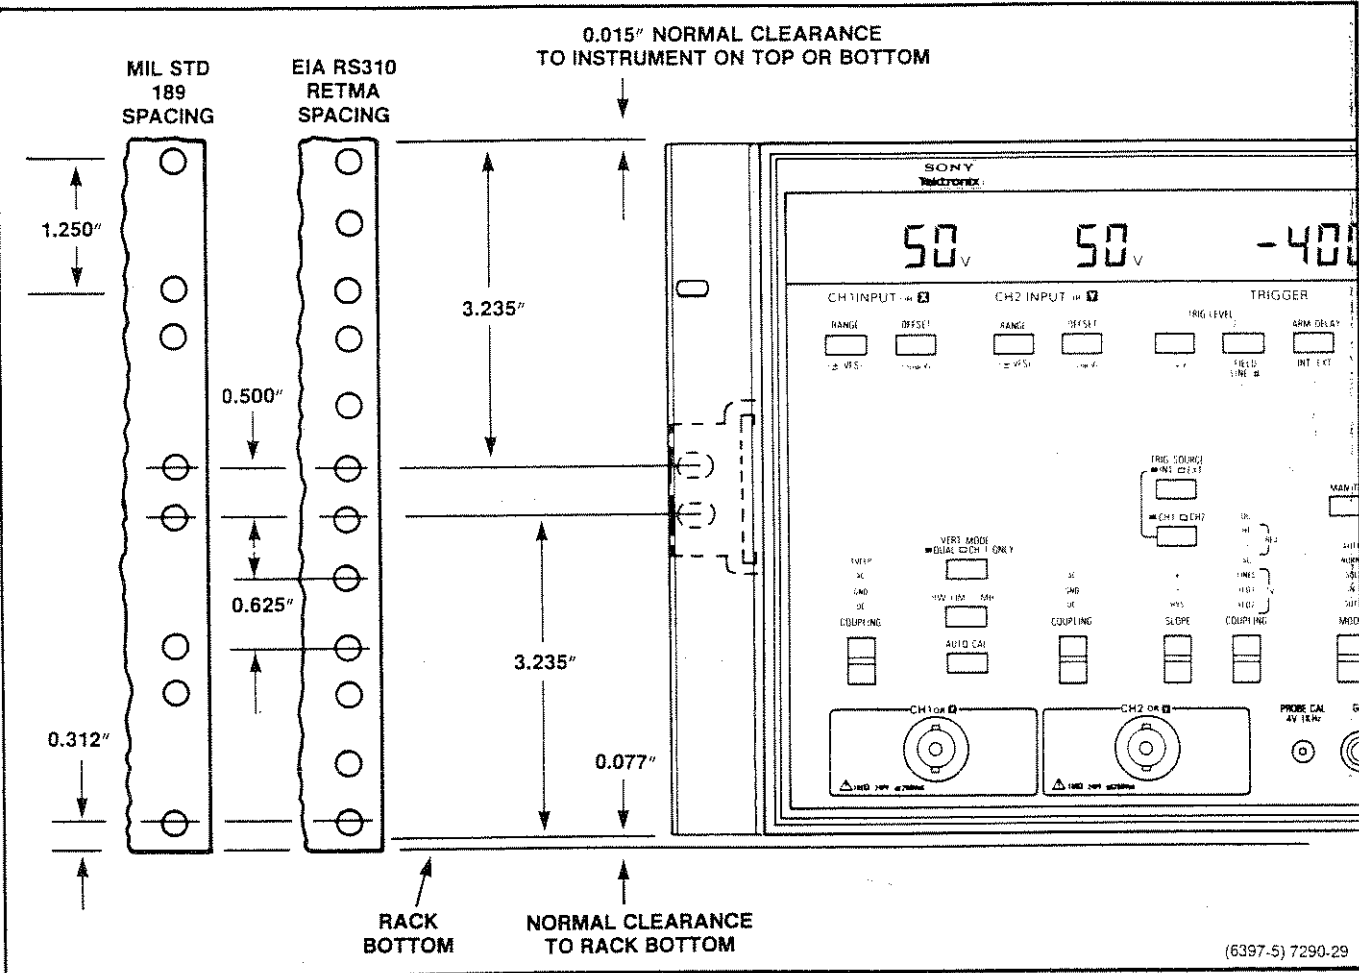

Fig. D-10. Rackmount hole spacing.
The RTD 710A rackmounting hardware will fit most commercial consoles and 19-inch wide racks whose rail holes conform to universal spacing (Fig. D-10).
1. Select the appropriate holes in the front and rear vertical rack rails, using Fig. D-10 as a guide.